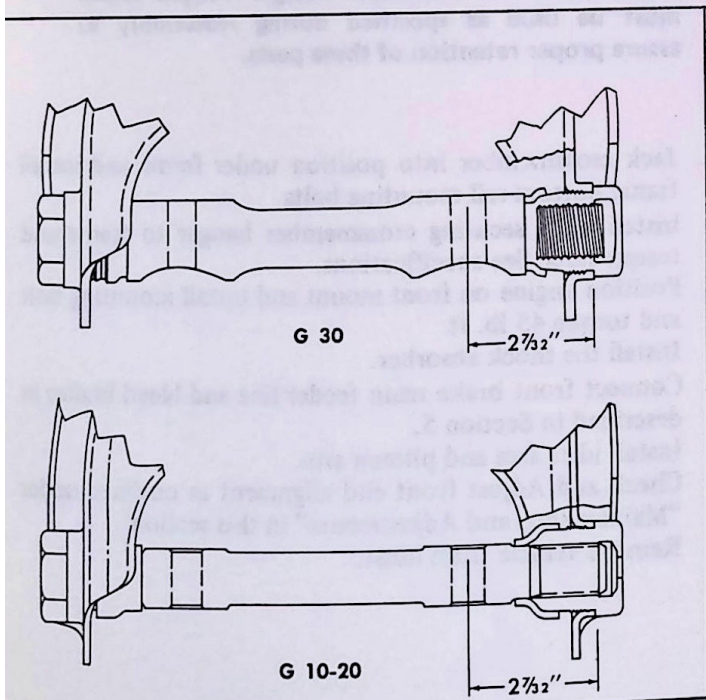

Fig. 18—Positioning Upper Control Arm Shaft
3. Start new bushings on shaft and into control arm. Adjust shaft until it is centered in control arm, then turn bushings in and torque. See Specifications. Check shaft for free rotation. Figure 18 shows correct final positioning of shaft.